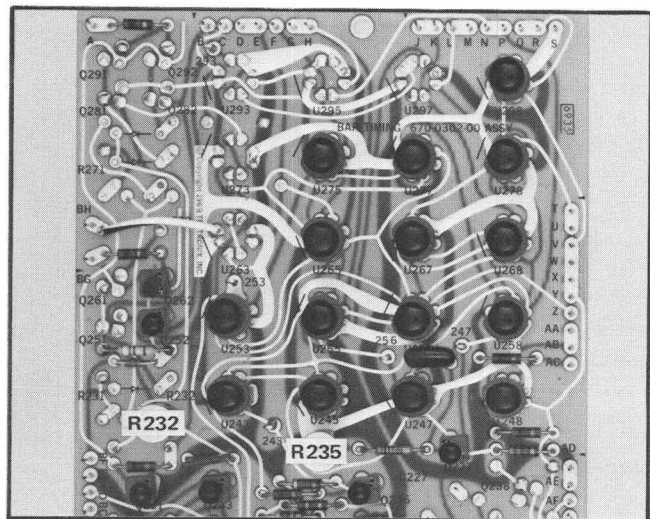

Fig. 5-27. Bar Timing board adjustment locations.
k. ADJUST—V Burst Level control, R232, (see Fig. 5-27) until the top of the bottom display just meets the bottom of the top display.
l. ADJUST—R235 (see Fig. 5-27) until the 50% point on the green-magenta transition is at the same point as the reference established in part h.